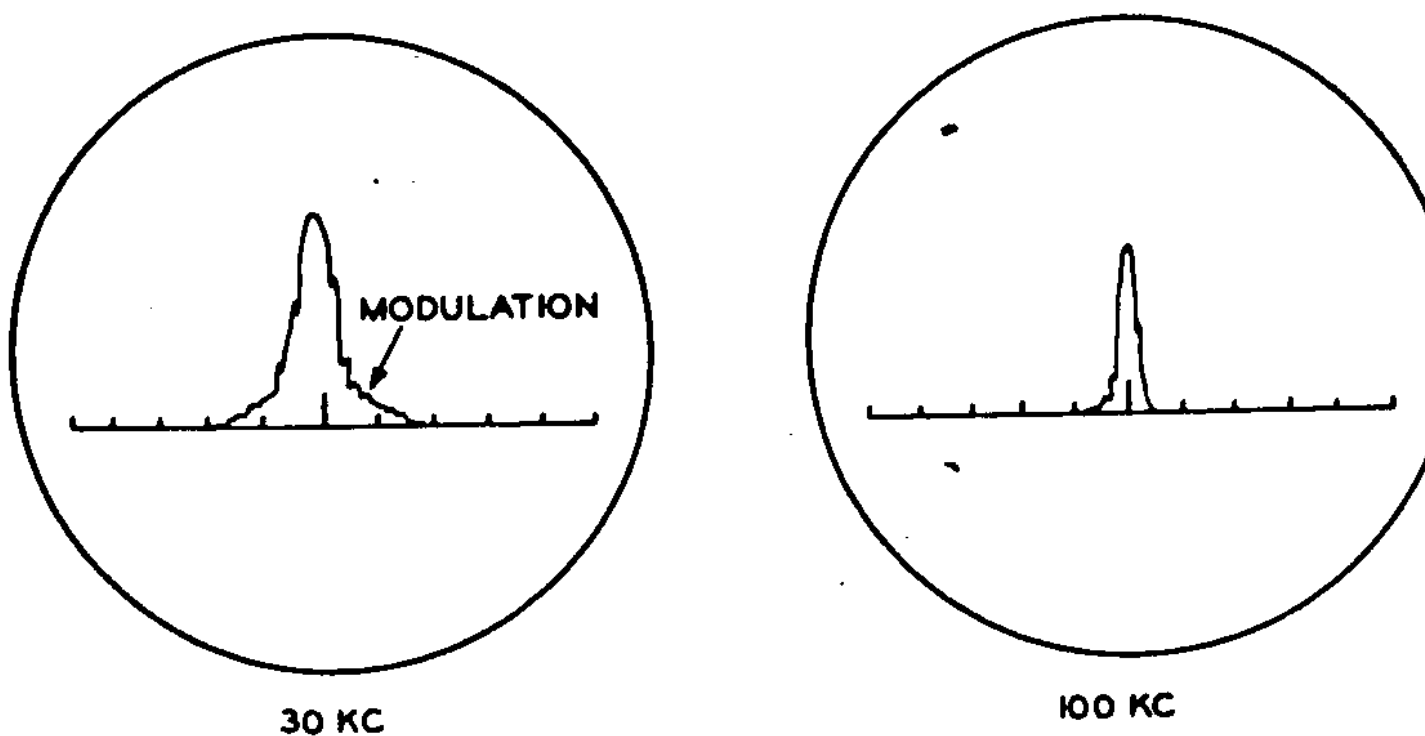

Figure 7
**Figure 7 - Normal AM:** Under no modulation the carrier will appear continuous. During modulation, the sides of the carrier will vary accordingly. These are the sidebands of an AM carrier.